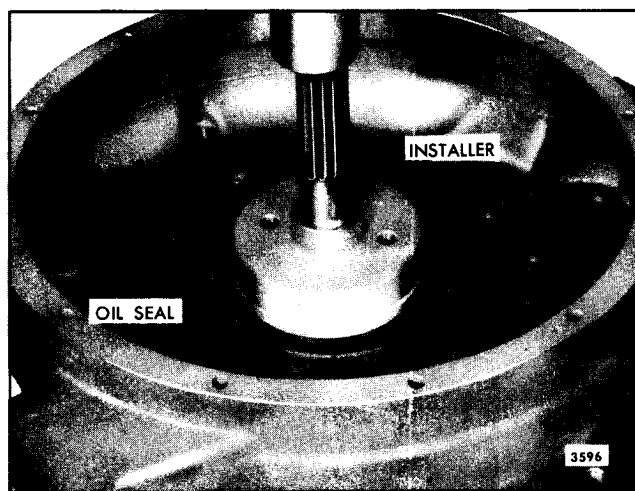

Fig. 6 - Installing Oil Seal in Flywheel Housing
4. On In-line and 6V-53 engines, use installer J 9479 to press the oil seal into the flywheel housing until the seal is flush with the outside face of the housing (Fig. 6). If the flywheel housing was not removed from the engine, place oil seal expander J 9769 (standard size seal) or J 21278-01 (oversize seal) against the end of the crankshaft. Then, with the lip of the seal pointed toward the engine, slide the seal over the expander and on the crankshaft. Next, thread the guide studs J 9479-2 into the crankshaft. Now drive the seal into the flywheel housing with installer J 9479-1 until it is flush with the face of the housing.